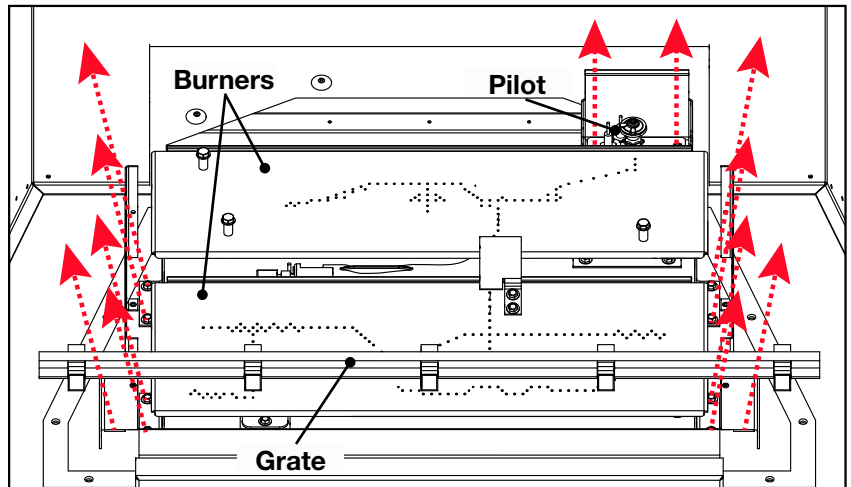

Fig. 1
2. Remove the eight (8) screws securing the burners in place and the two (2) screws securing the grate in place (**Fig. 1**).
5. Remove the two (2) screws securing the pilot in place (**Fig. 1**). Using a backup wrench, remove the pilot tube from the bottomside of the pilot (**Fig. 2**). Remove the pilot orifice and replace with the one supplied. Reattach the pilot tube and pilot to the bracket.